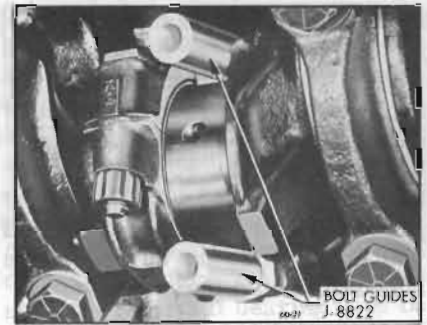

Figure 60-126—Connecting Rod Bolt Guides Installed
4. Remove cap and bearing shell from #1 connecting rod. Install connecting rod bolt guides on the bolts to hold the upper half of the bearing shell in place. See Figure 60-126.